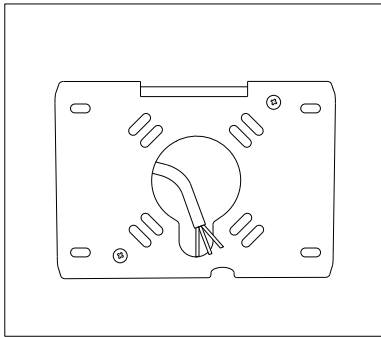

Figure 4
4. After attaching the mounting plate to the junction box, pull the incoming power wires through the hole in the mounting plate (see Figure 4).